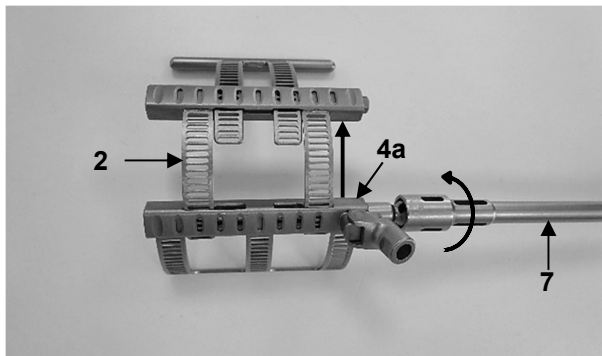
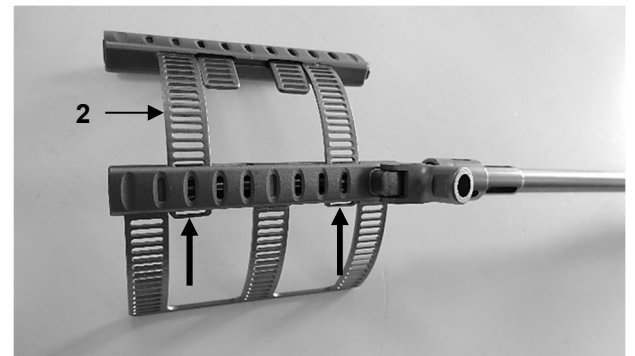

Fig. 3a
Fig. 3b
Then extend the primary element (2) using the LMT-4 cardan screwdriver (7). To do this, turn the outer hexagon screw on the cage module of the basic element (4a) clockwise using the LMT-4 cardan screwdriver (7) (Fig. 3a). Ensure that the primary element (2) is not extended beyond the point at which the last oblong hole at the end of the respective rib blade is still fully visible (Fig. 3b).